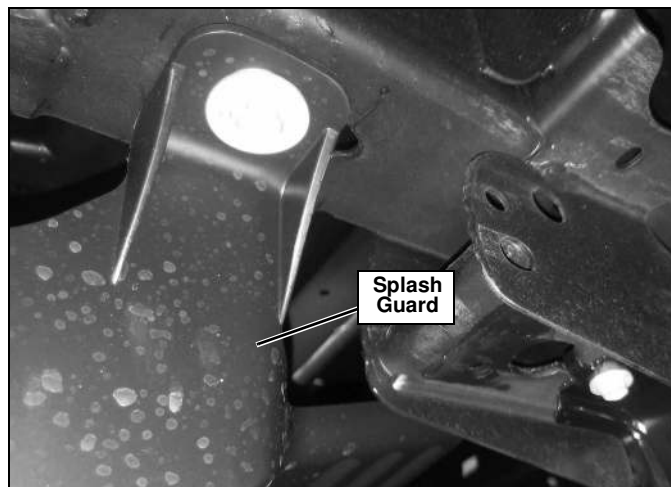

Figure 2
4. Remove the splash guard between the frame rails, along with the nut clip held into the frame. (See Figure 2.)